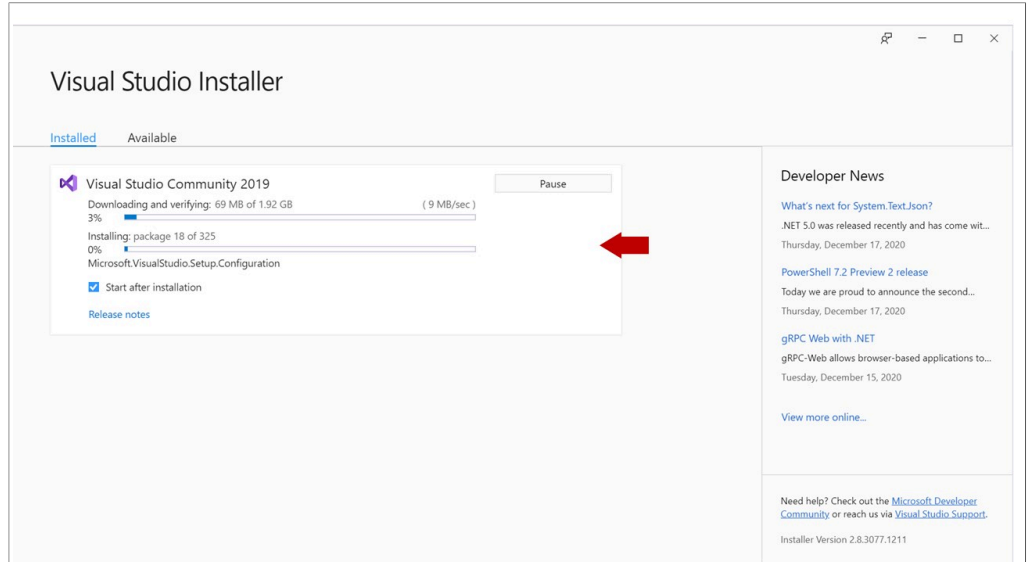

Figure 96. Install desktop development with C++
- 5. Visual C++ Tools for CMake is installed by default as part of the Desktop development with C++ workload. This process might take several minutes. Figure 96 shows Visual Studio installation wizard as an example: